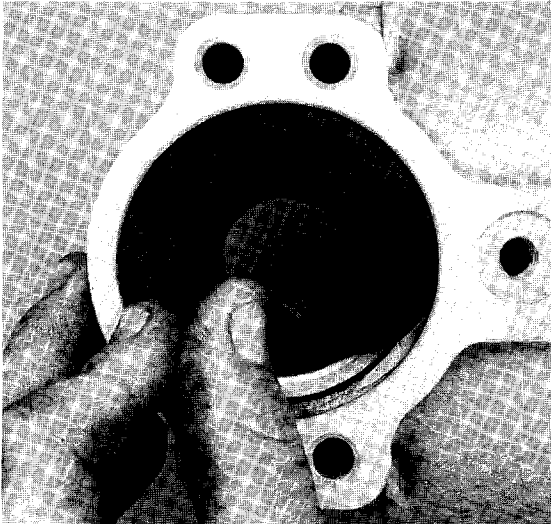

Fig. 23
18. Unfold the top flange (Figure 23) and center both the top and bottom of the HYDRATUBE.